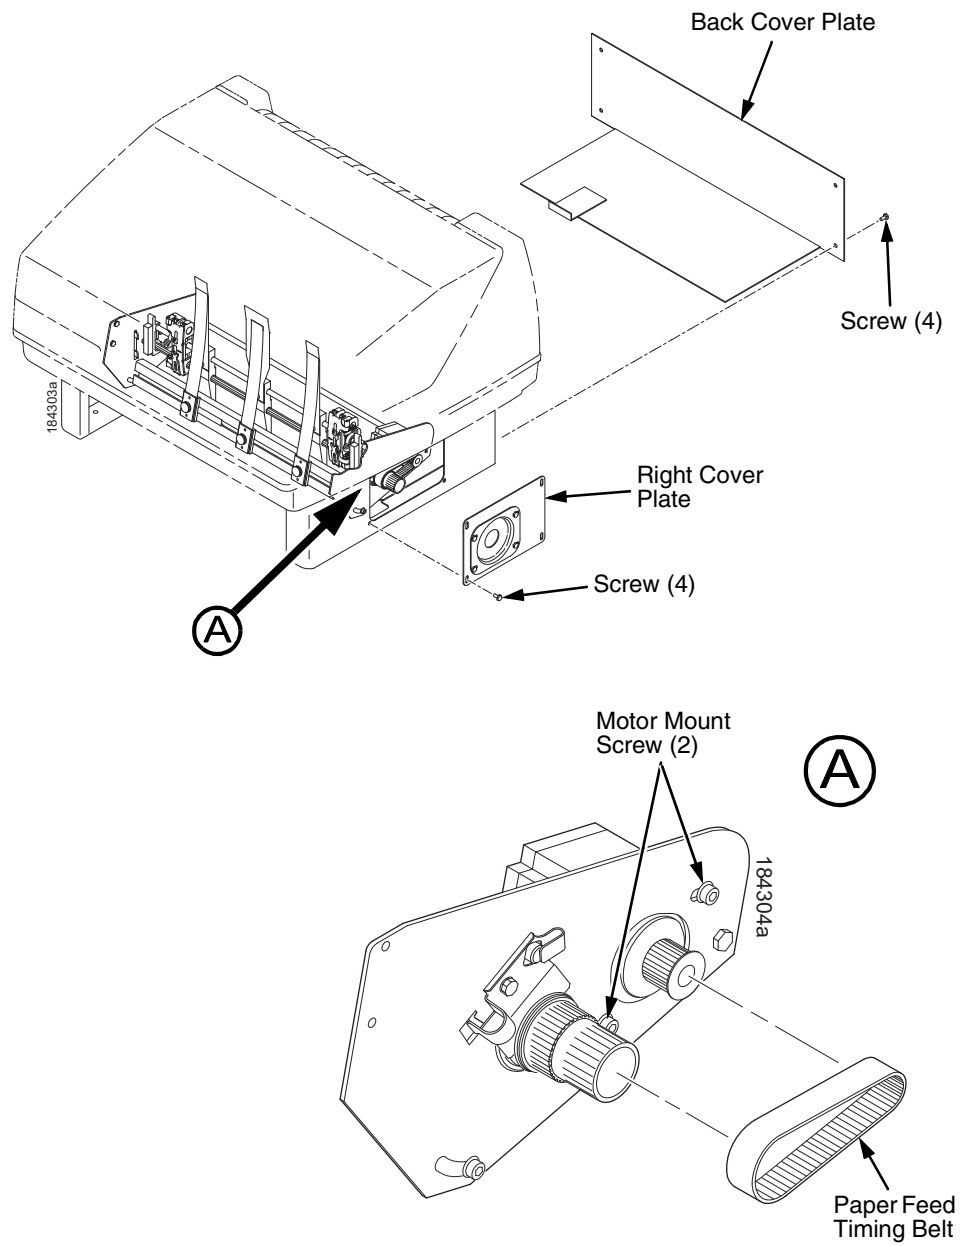

Figure 119. Removing the Right Cover Plate and Back Cover Plate
2. Remove the hex screws and right cover plate. (See Figure 119.)
10. Install the back cover plate. (See page 524, Figure 119.)
11. Install right cover plate. (See page 524, Figure 119.)